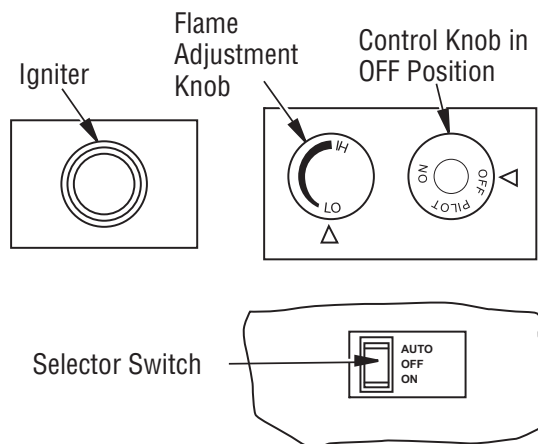

Figure 67 - Control Knob, Igniter Button and AUTO/OFF/ON Switch
4. Press in and turn control knob clockwise to the OFF position (see **Figure 67**).
5. Wait five (5) minutes to clear out any gas. Then smell for gas, including near the floor. If you smell gas, STOP! Follow "B" in the safety information, column 1. If you don't smell gas, go to the next step.
6. Press in and turn control knob counterclockwise  to the PILOT position. Press in control knob for five (5) seconds (see **Figure 67, Page 29**).